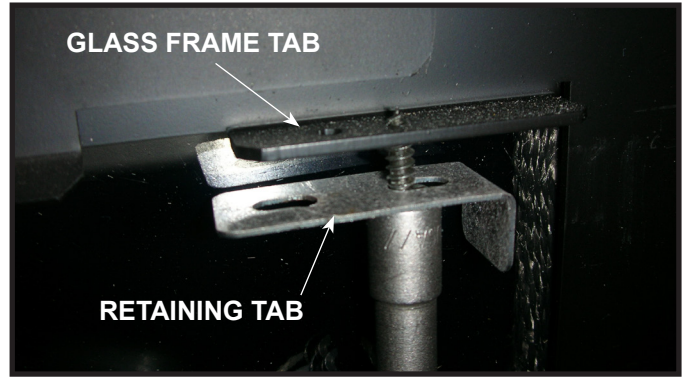

Figure 20. Attaching Retaining Tab to Glass Frame Tab.
14. Attach retaining tabs at the top by installing the sheet metal screws into the pilot holes located above the granite. See Figure 20.